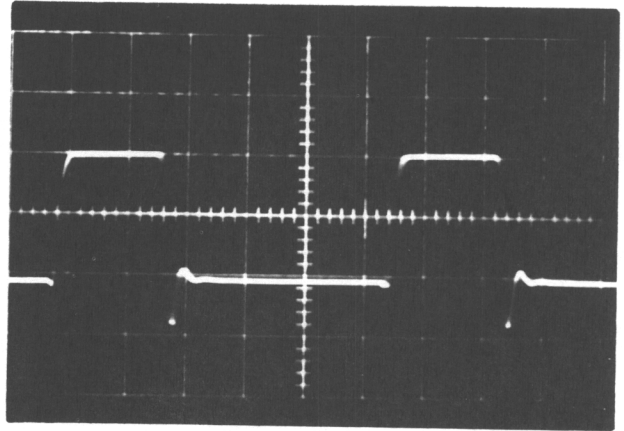

Figure 3-24. 1K20P (5 μ sec/div, 5 v/div, X5)
5. Check 1K20P for a nominal output pulse width of 1.7 μ secs (Figure 3-24). Maximum pulse width is 2.5 μ secs, minimum pulse width is 1.5 μ secs. Rise time should be 0.5 μ secs at 90% of signal.